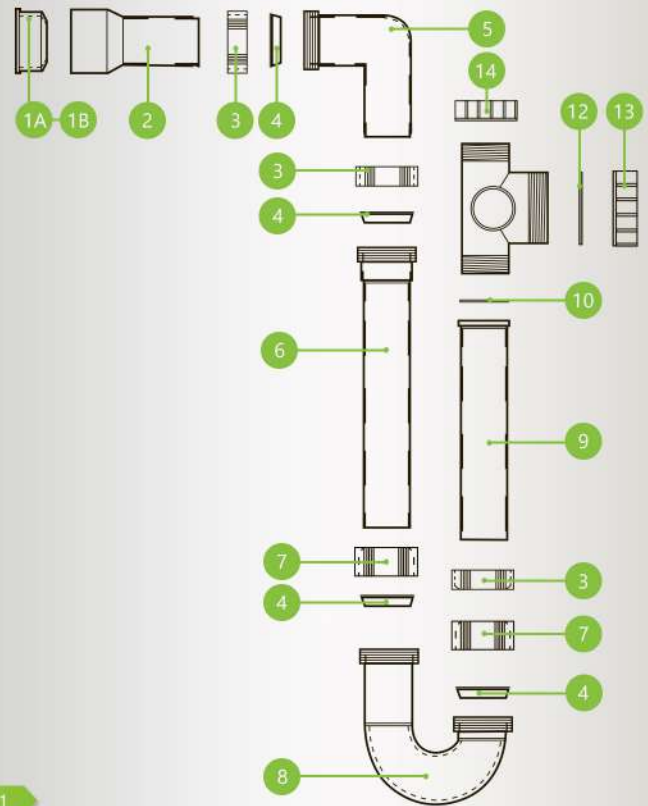

FIG 1
The special siphon Type AK-D - is a manually filled siphon for draining condensate from the chiller, humidifier or other wet areas in air-handling units (AH units) that operate at positive pressure compared to the environment. Considering a safety factor of 1.5 for pressure surges during plant operation (quick release flaps etc.), the height of the pipes is sufficient for a max. positive pressure of 1630 Pa. An extension of the two immersion pipes (6) and (9) for higher pressures is possible. To be ordered separately, if required (Fig. 1).
For assembly (see Fig. 1). Attention must be paid during assembly that the pipes are always inserted into the nozzle as far as they will go.